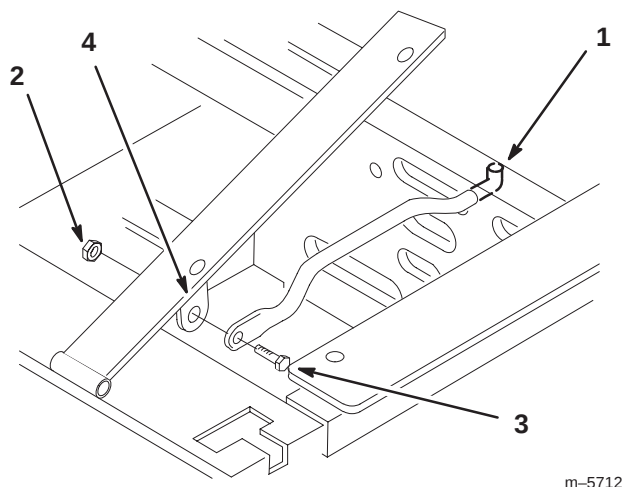

Figure 3
1. Tilt seat up. Remove the locknut (5/16 inch) from bolt attaching seat retaining rod to seat frame (Fig. 3).
2. Remove retaining rod from seat and insert the L shaped end of the rod into the hole directly above the left-side hydraulic pump (Fig. 3).
3. Place the seat retaining rod to the outside of the seat mounting tab and secure with a bolt (5/16 x 1 inch) and locknut (5/16 inch) (Fig. 3).